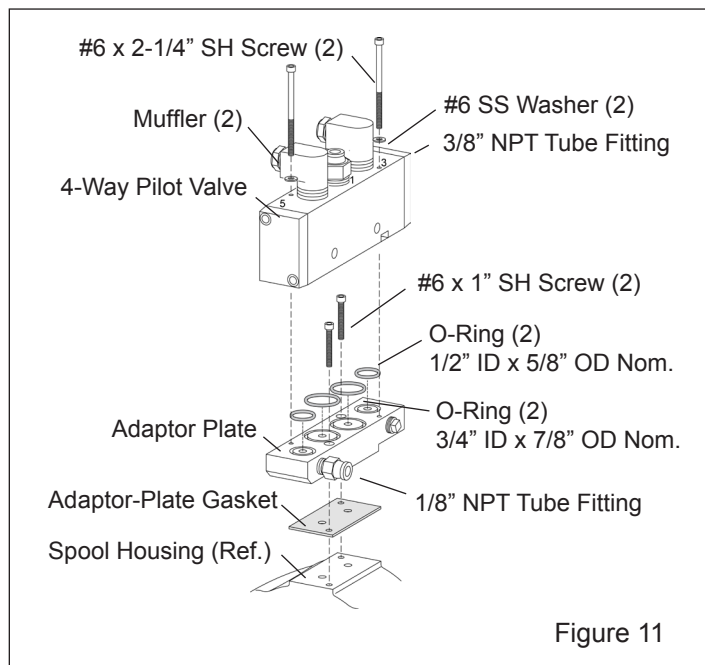

Figure 11
4.5 4-Way Pilot Valve Assembly – Figure 11